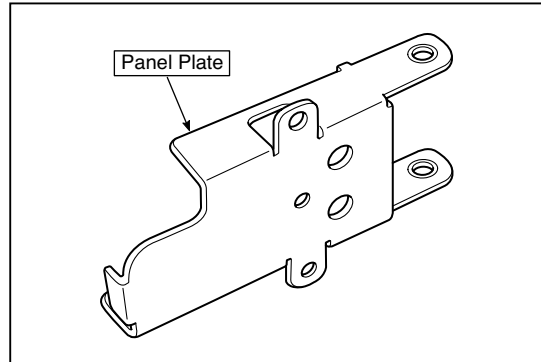

Fig.24
- 2.Remove the Panel Plate shown in the figure 24.